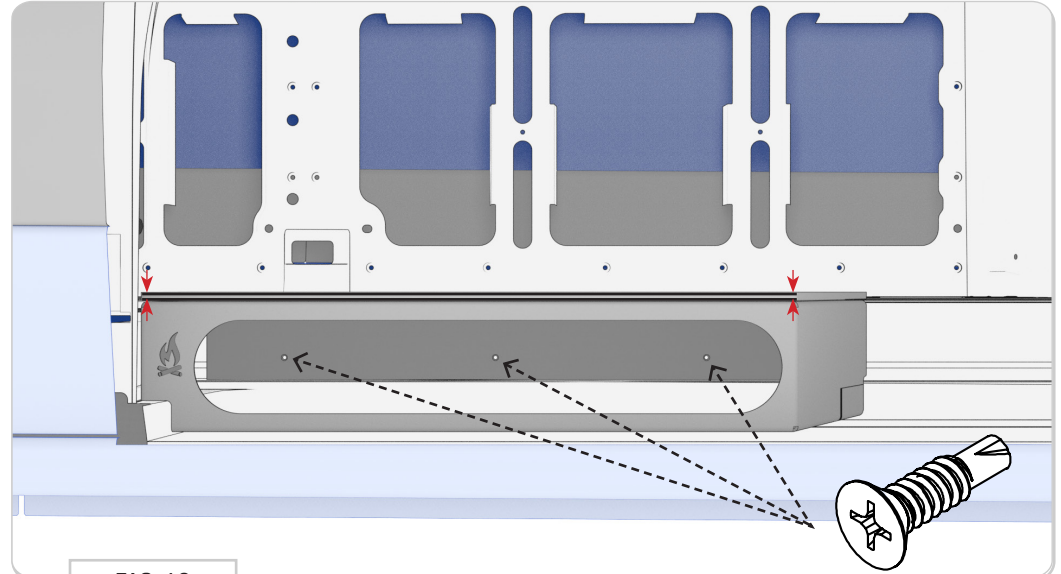

FIG 13
4.2 Check and Level the Flooring Extension: Ensure the **Flooring Extension** sits flush with the van's floor by using the **Support Bracket Assembly** to level it (FIG 13).
4.3 Secure the Support Bracket Assembly: Once satisfied with alignment, drive (3) **#8 Flat Head Drilling Screws** into the sheet metal of the step to hold the **Support Bracket Assembly** in place (FIG 13).